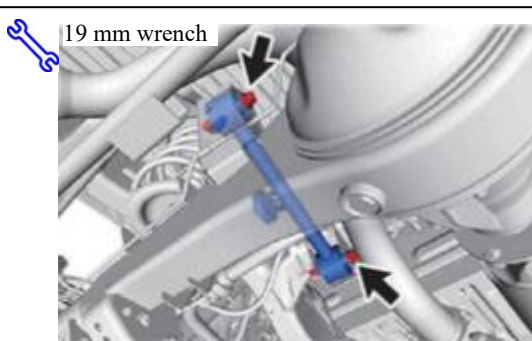

Fig. 39-3
- (1) Loosen the Rear RH upper control arm assembly at the frame by holding the nut, and loosening the bolt. Do not remove the bolt (Fig. 39-3).
- (2) Remove the bolt from the Rear RH upper control arm assembly at the Axle by holding the nut and loosening the bolt.